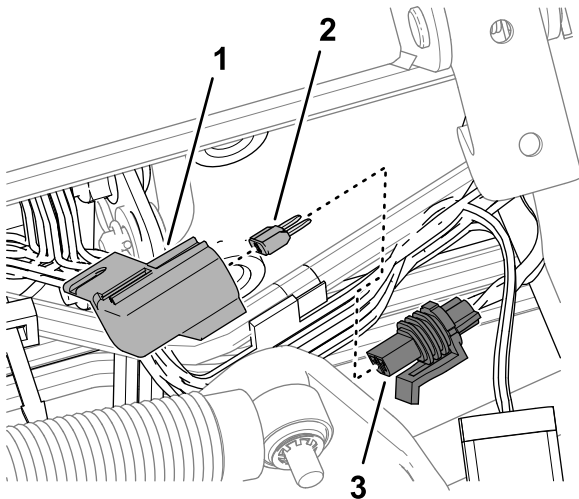

Figure 135
3. Remove the cap from the in-line fuse holder labeled 10 A FUSE TELEMATIC PWR (Figure 135).